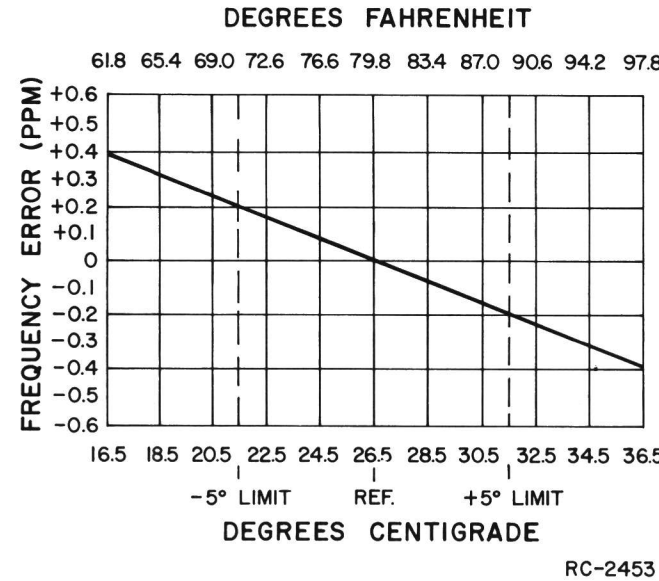

Figure 6 - Frequency Characteristics Vs. Temperature
2. Maintain the radio at 26.5°C ($\pm 10^\circ\text{C}$) and offset the oscillator, as a function of actual temperature, by the amount shown in Figure 6.
B. To hold setting error to ± 0.35 PPM (which is considered reasonable for 2 PPM ICOMs): Maintain unit at 26.5°C ($\pm 5^\circ\text{C}$) and offset the oscillator, as a function of actual temperature, by the amount shown in Figure 6.